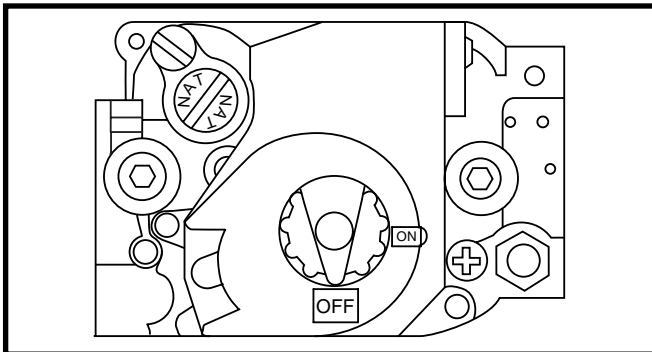

Figure 3. Gas Valve
7. Turn the gas valve knob to the OFF position. See Figure 3 for gas valve knob location.